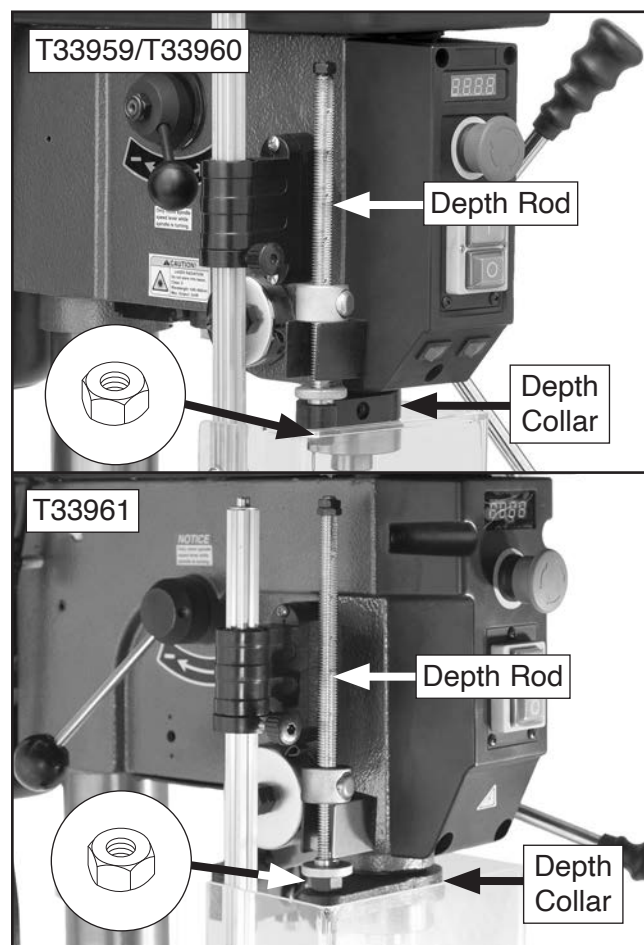

Figure 67. Depth stop calibration components.
4. Loosen hex nut shown in **Figure 67**.
5. Adjust depth rod up in depth collar a couple turns (see **Figure 67**).